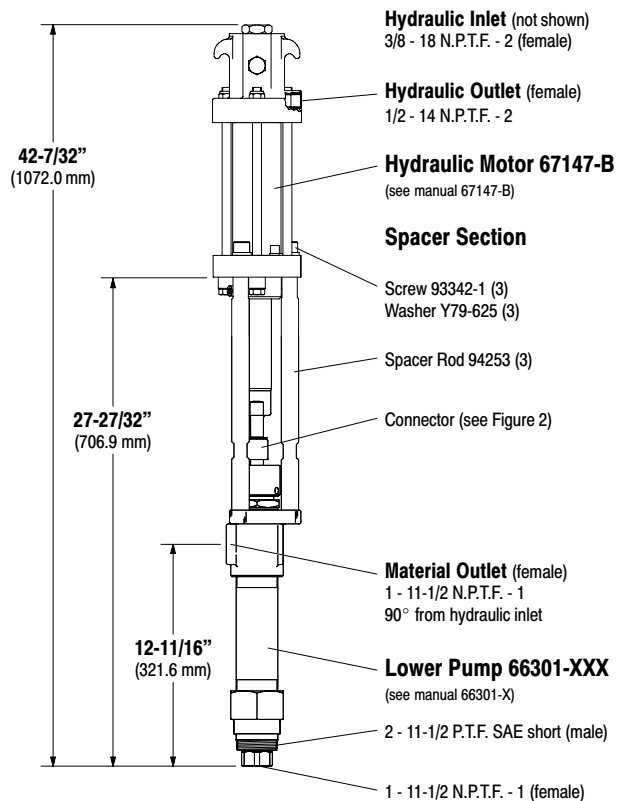

Figure 1
2. Remove the three screws and washers from the three spacer rods (see figure 1).